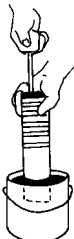

FIGURE 8
3. Insert the open end of the barrel about 2 inches into the bulk grease. (see figure 8)